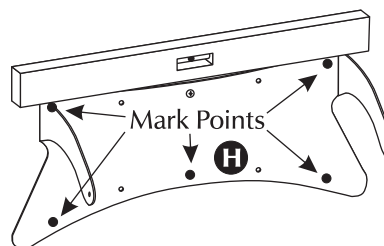

Figure 11. Level the stand and mark the 5 outer points.
- 9 Place a level across the top edge of the Cinema i stand and make sure that it is level. Mark the wall through the center of each of the 4 outer holes and the lower, center hole in the Cinema i stand (figure 11, step H).